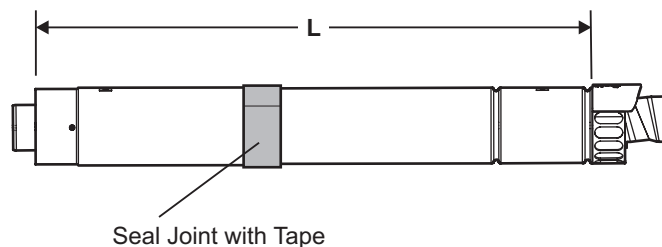

Fig. 4.7
2. Determine the overall length (L) of flue required, (see Fig. 4.7) as follows:-